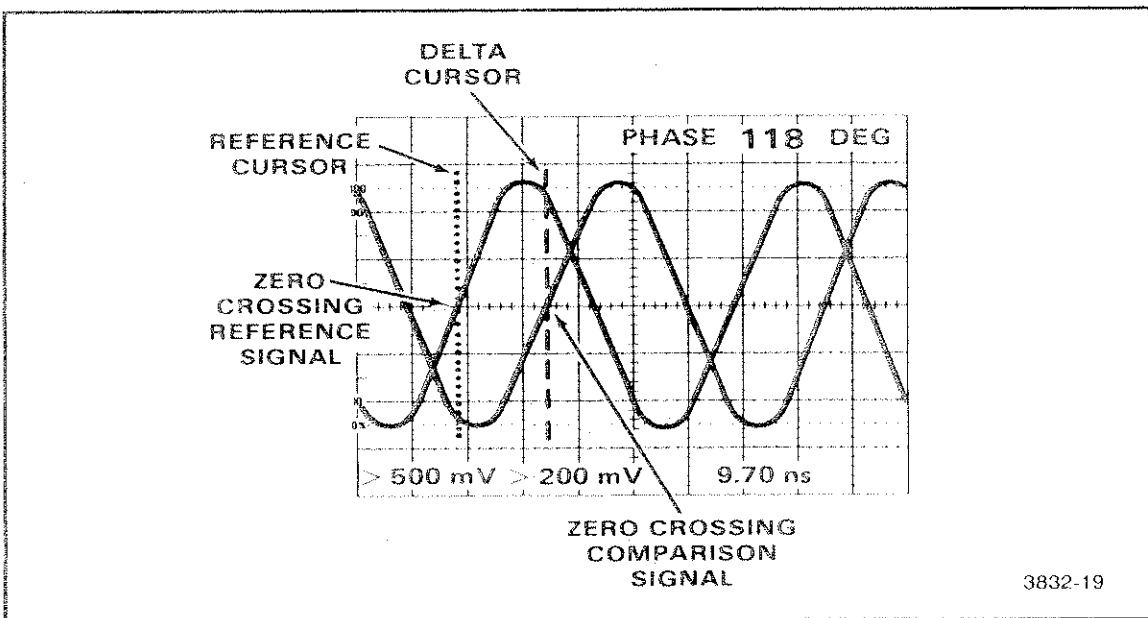

Figure 3-7. Phase difference between two time-related signals.
6. Align the Reference cursor with a zero-crossing of the reference signal. Align the Delta cursor with the nearest zero-crossing of the comparison signal, on the same slope as the reference signal zero-crossing (see Figure 3-7). Use the center horizontal graticule line as the reference for aligning the zero-crossings.